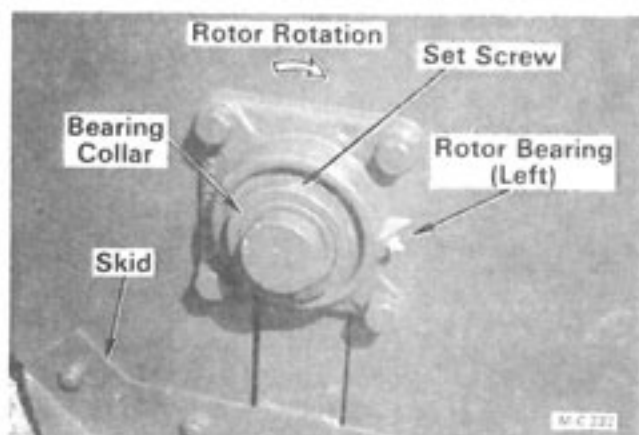

Figure 22
- A. Remove the left skid, see Figure 22. Remove the right skid and the belt guard cover.
- A. Remove the left skid, see Figure 22.